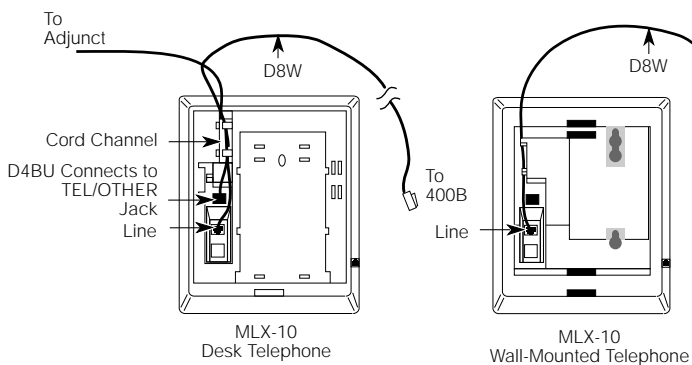

Figure 3-31. Connecting the Line Cords
► **2. Connect the line cords. See Figure 3-31.**